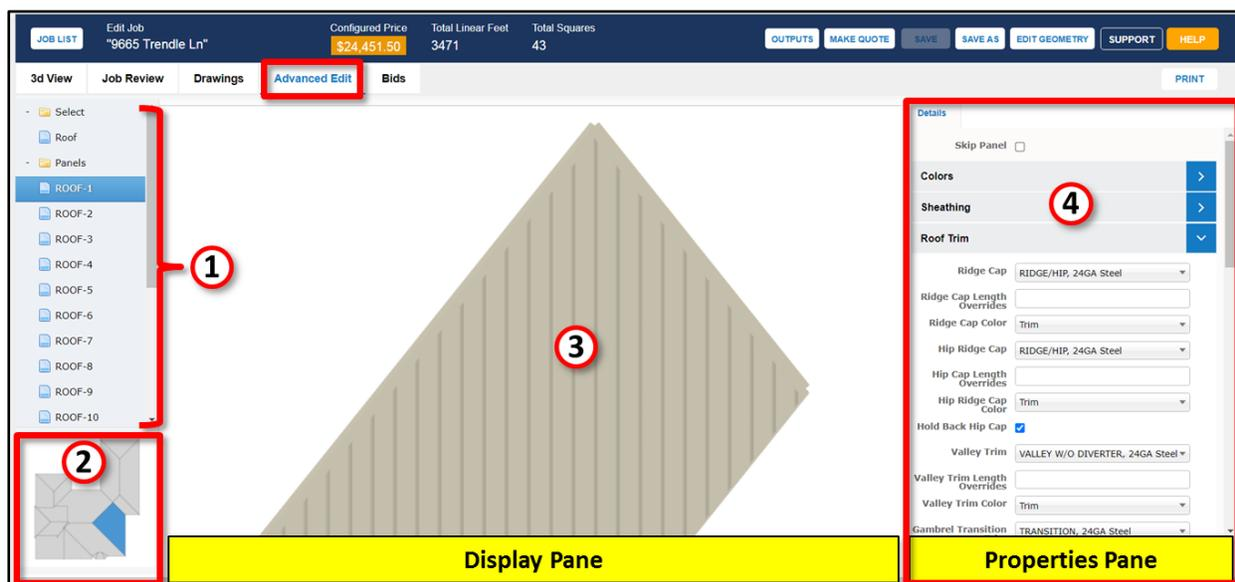

Figure 14: The *Edit Job* page in *Advanced Edit Mode*
4. **Properties Pane** – Unlike the other *Modes* on the *Edit Job* page, in *Advanced Edit Mode* the *Properties Pane* has only one tab – the *Details* tab. Contents of the *Details* tab are limited to the material specifications relevant to the selected panel (i.e. roof plane). In addition, in *Advanced Edit Mode* the top of the *Properties Pane* includes the `Skip Panel` checkbox, which is not available in any other *Mode*. (Figure 14 at right.) Place a checkmark in the `Skip Panel` checkbox if you wish to remove all metal sheathing and trim from the selected roof plane. The roof plane itself will remain as part of your model, however, all associated sheathing and trim will be removed from your *Materials List*. You may wish to use this function if, for example, a section of roof is to be excluded from a job due to the fact that it is covered in a different type of material.